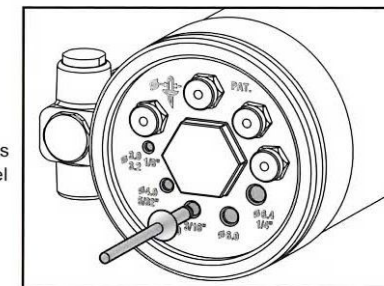

Fig.1
The patented RIVET SIZE HOLE GAUGE Design at the bottom of Air Cylinder End Cap (12) provides a great assistance of checking the rivet body diameter of the blind rivet to be fastened, find out the size marked beside the hole gauge, then choose the matched size nosepiece as the Working Nosepiece (1), so as to prevent spent mandrel from being stuck in tool after setting blind rivet. (Fig.1)